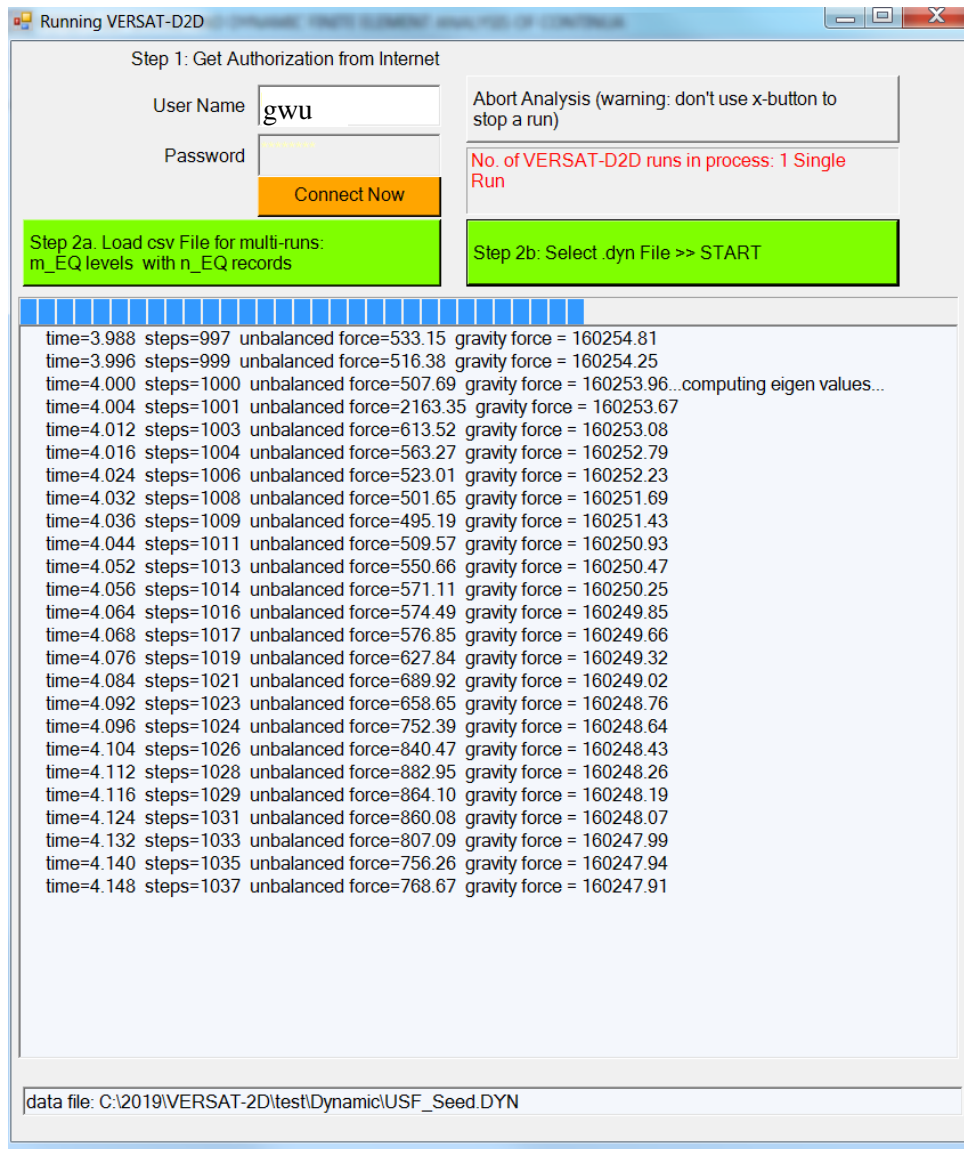

Figure 4.4 A window (v.2019.5.8 and later) showing a dynamic run in progress: A Single Run
- Select the input file "*run3.dyn*" to run after "Successful! Goto STEP 2" in red is obtained as shown in Figure 4.4.